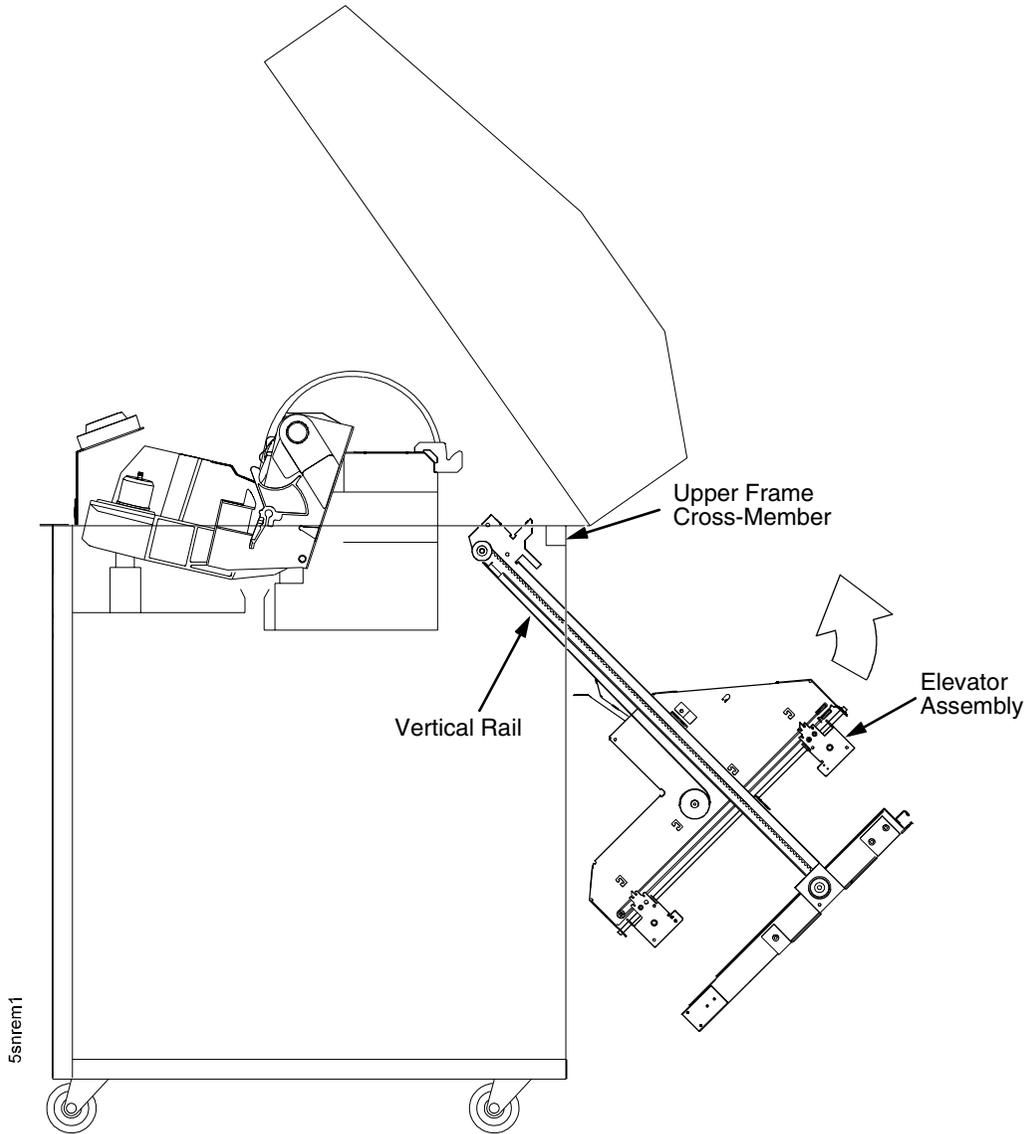

Figure 77. Removing the Stacker Assembly
- Slide the entire stacker assembly slightly to the right to clear the air exhaust duct. Tilt the vertical rails toward the front of the printer until they clear the upper frame cross-member. Lift and slide the stacker assembly to the rear and angle it out of the cabinet, as shown in Figure 77.